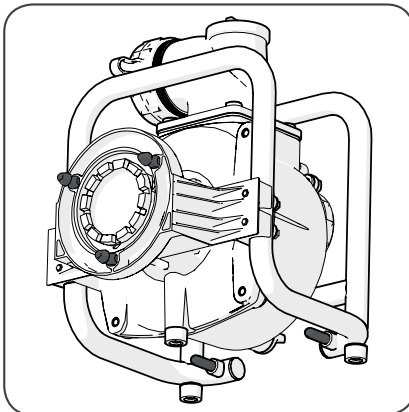

Fig 8
- Keep the 3 locating pins and 2 stabilising pins clean and occasionally lightly spray with a silicone oil based spray. **(Fig. 8)**